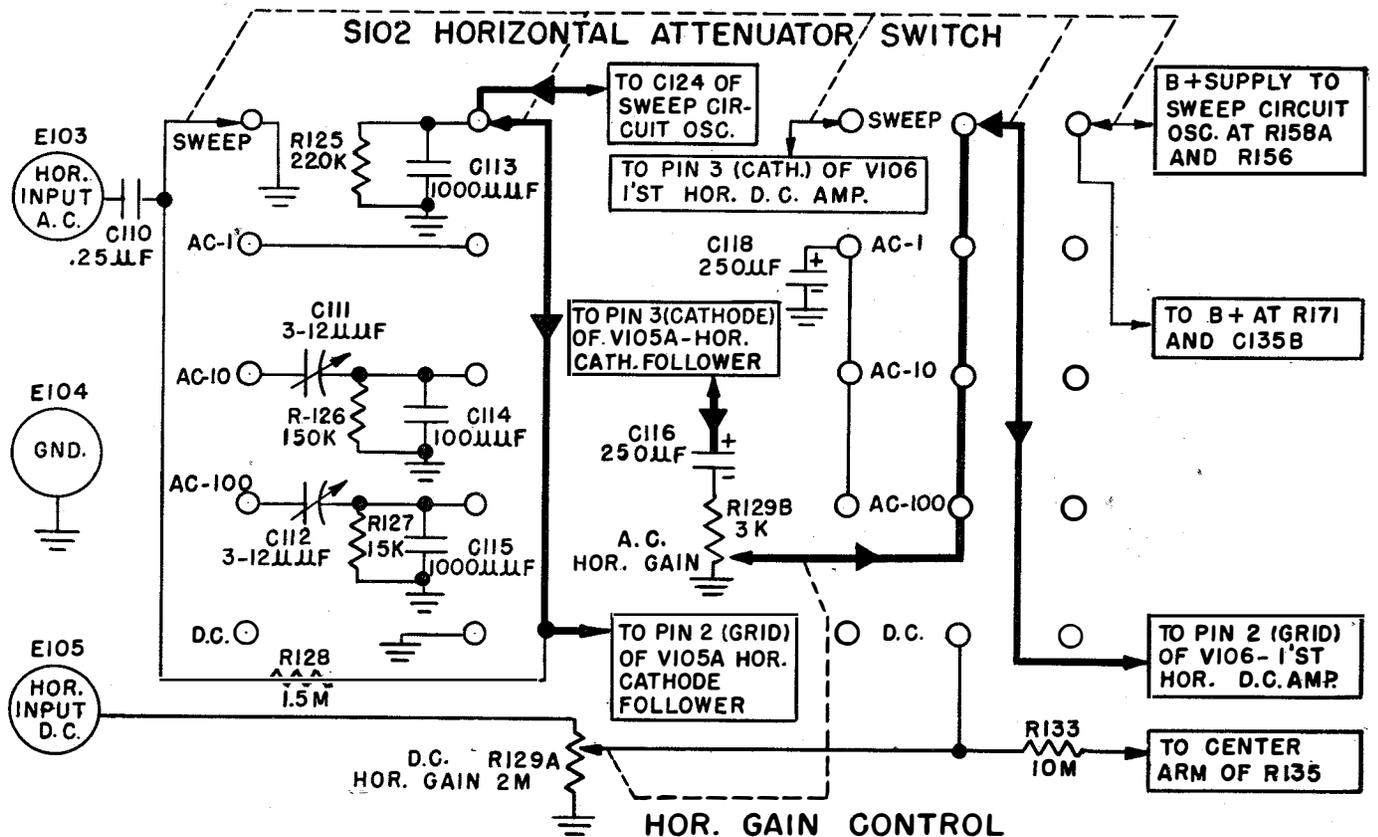
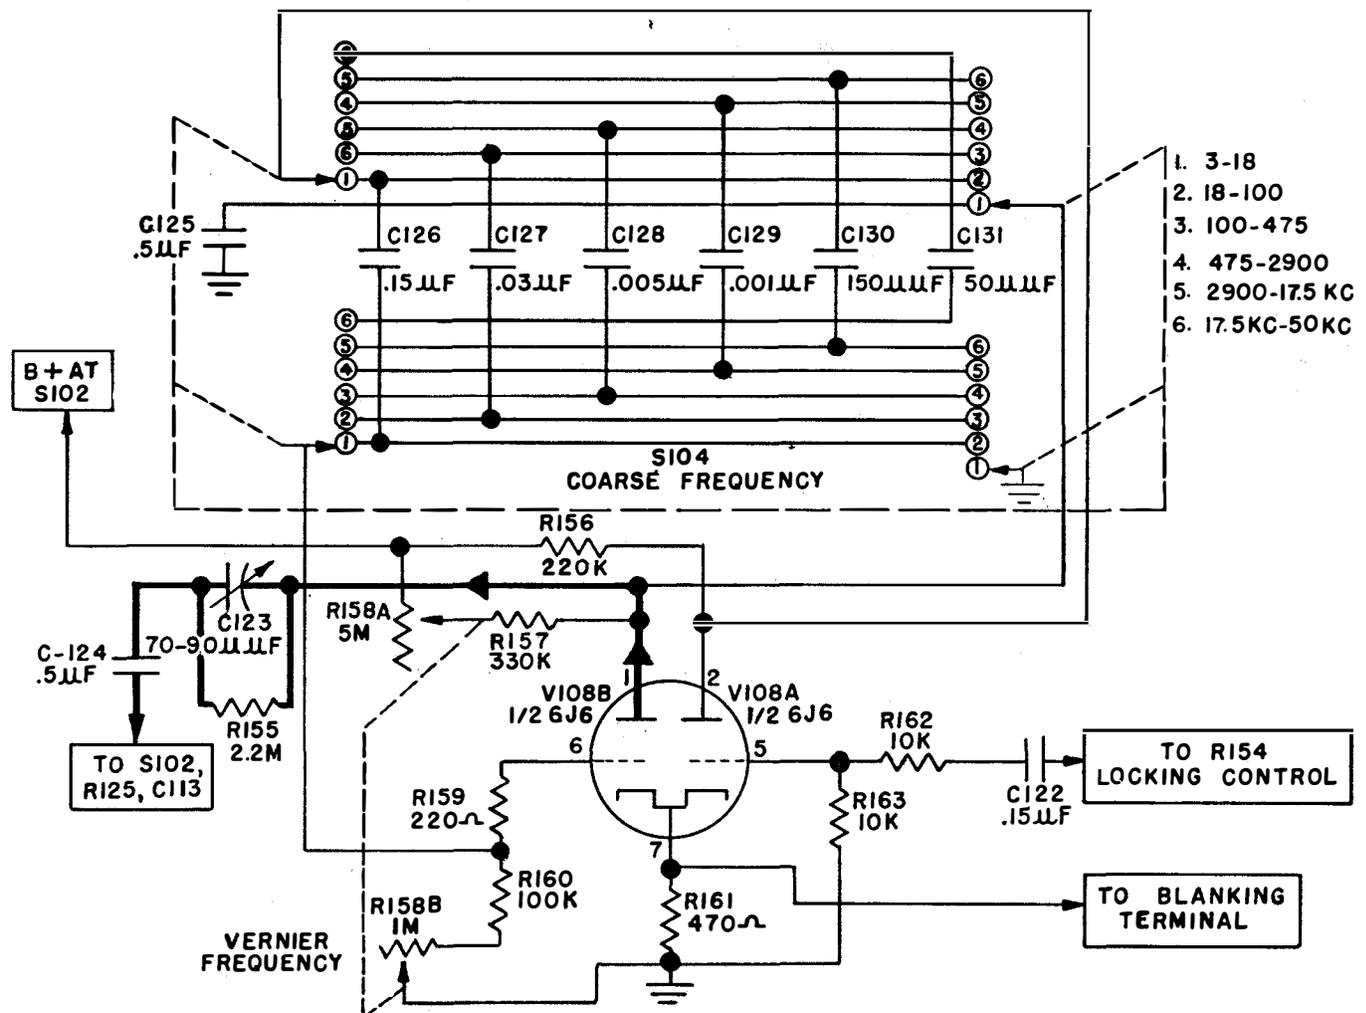

Figure 2-5. Horizontal Input Attenuator
Figure 2-8. Sweep Circuit Oscillator
(1) HOR. ATTEN. and HOR. GAIN. (See Figure 2-5)
c. SWEEP CIRCUIT OSCILLATOR. (See Figures 2-8 and 2-8A)
A cathode coupled multivibrator circuit utilizing a type 6J6 tube, V108, is used as the horizontal sawtooth oscillator and operated over a frequency range from 3 to 50,000 cycles per second. This range of frequencies is controlled by the COARSE FREQUENCY switch, S104, utilizing capacitors C125 through C131. These capacitors act alternately and respectively as sawtooth generating capacitors for the second triode section, V108B, and as coupling capacitors for the first triode section, V108A, to the second triode section of the multivibrator. In the position shown in Figure 2-8, C125 is used as a sawtooth capacitor while C126 is the coupling capacitor.
V108B through the frequency compensated voltage divider consisting of R155 shunted by C123 (Fig. 2-8) and R125 shunted by C113 (Fig. 2-5), and decoupled by capacitor C124. This sawtooth signal is applied to the horizontal cathode follower through HOR. ATTN. S102 when set to the "SWEEP" position. The high frequency linearity of the sawtooth may be adjusted with capacitor C123 in the frequency compensated dividing network.